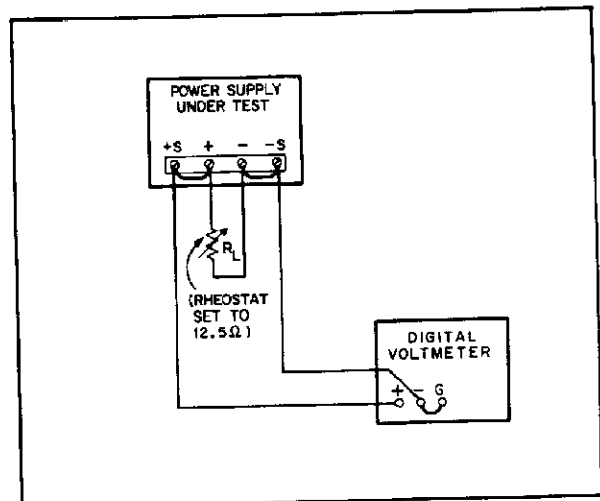

Figure 5-1. Constant-Voltage Test Setup
- Connect load resistance and digital voltmeter across rear terminals as shown in Figure 5-1. Set  $R_L$  to maximum resistance, initially.
- a. Connect test setup shown in Figure 5-1.
- Connect load resistance and digital voltmeter as illustrated in Figure 5-1.
- Check load resistance and digital voltmeter as illustrated in Figure 5-1.